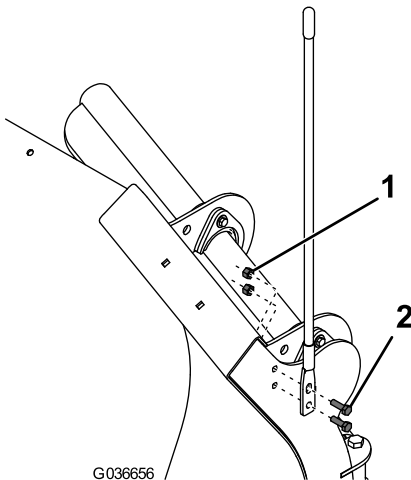

Figure 13
- Attach the blade guides to the plow wings using 4 bolts (5/16 inch) and 4 self-locking nuts (Figure 13).